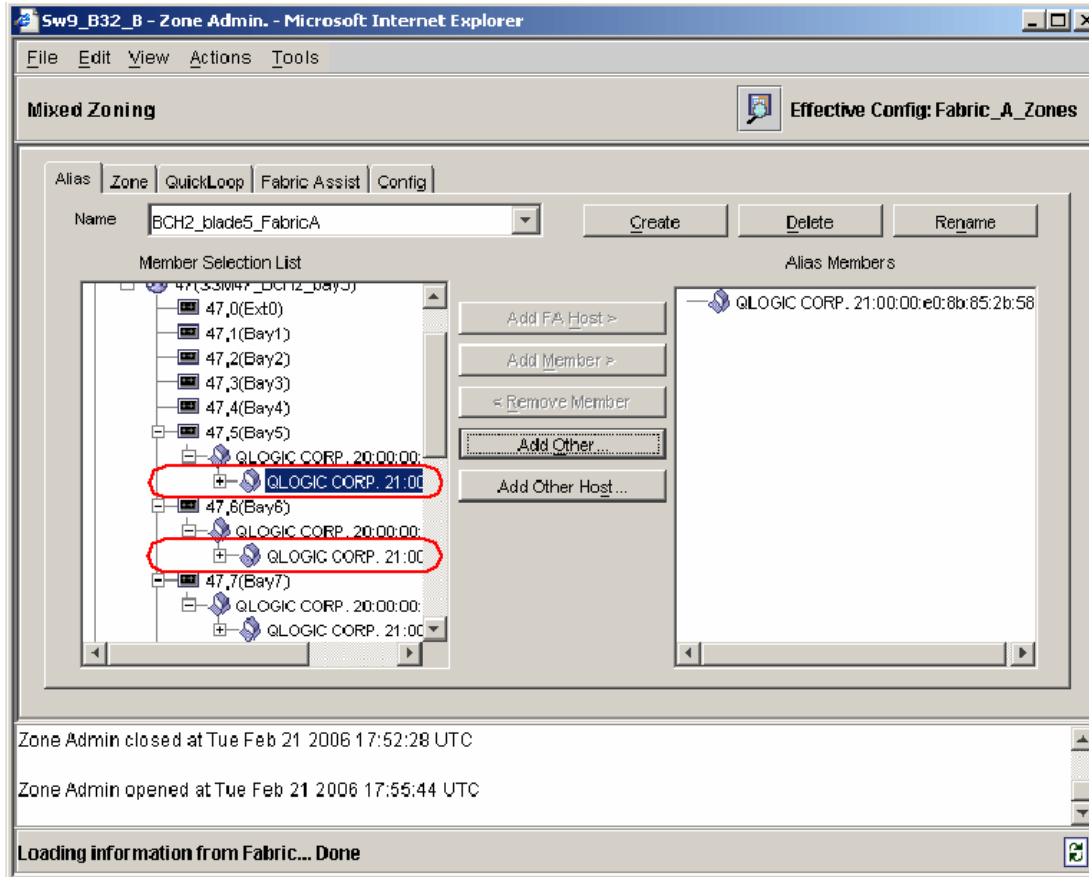

Figure 5-56 Finding WW Port Names of devices
4. Find the correct port on the switch module. In this case, we are looking for port 7 that is connected to blade 7. Expand port 7 until the WW Port Name (WWPN) is shown. For each device, the WWPN will be the second (inner) WWN shown in the Port tree. The first (outer) WWN is called the WW Node Name (WWNN). Always use the WWPN for the most secure zoning (see Figure 5-56 on page 119).